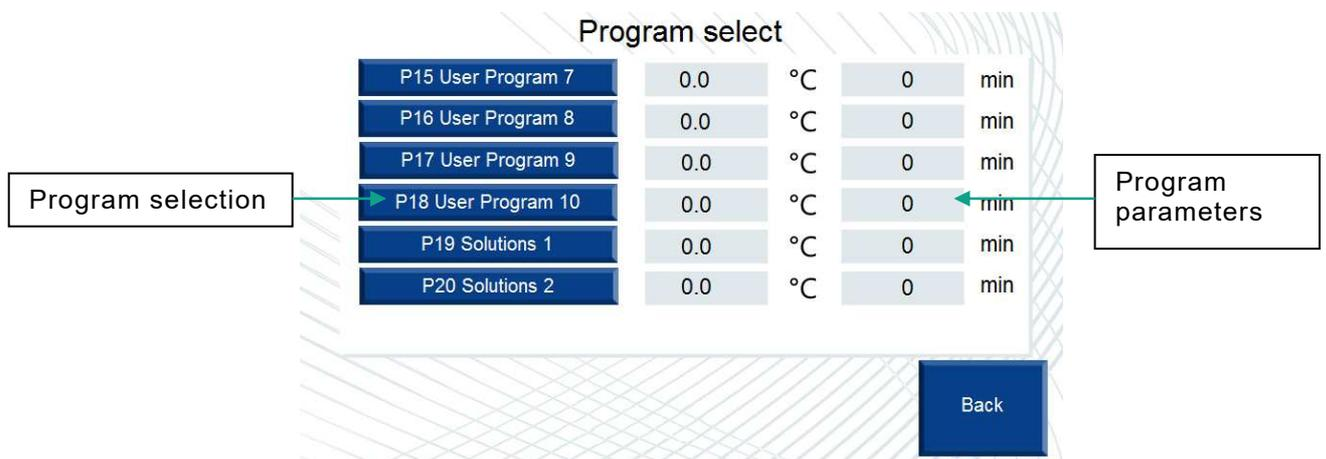

Fig. 10a
**Next** – pressing this button navigates to the next program selection screen (Fig. 10a).